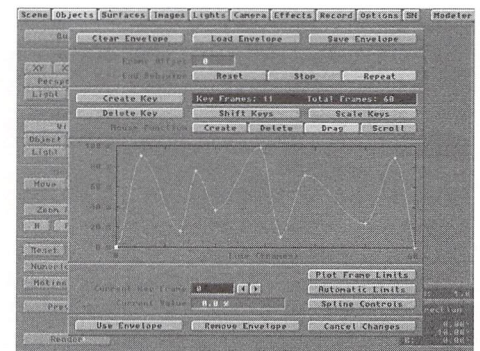

Figure 3: Example of a wild, wacky envelope.
- Make a wild, wacky metamorph envelope for Box1, Box2 and Box3 (Figure 3). Give each envelope a different total number of frames: something like 60, 52 and 46 frames, for example.
The algorithm then proceeds with a **balancing** loop to find the total radiosity (light energy) emanating from each element. This radiosity consists of both emitted (if a light source) and diffusely reflected light. By using the form-factors calculated earlier, this procedure eventually reaches equilibrium, whereby the energy absorbed and radiated by each element becomes balanced and further energy transfer between elements ceases. Perhaps this balancing process would best be understood by examining the mock pseudo-code illustrated in Figure 3. In this very simplistic example, assume that there are only three elements and that one of these elements happens to be a light source. It might be helpful to imagine the walls and ceiling in the color image "Room Corner" as representing the variables in the pseudo-code, with the ceiling acting as a light source.